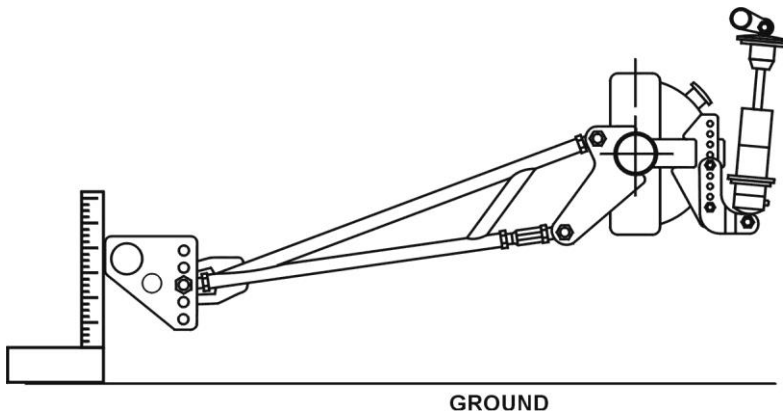

Figure 2
2. **Round Tube Crossmember-** Find and mark the center of the dropped section of the crossmember. Slide two of the crossmember brackets over each end of the crossmember. Utilizing the center bolt hole position in the brackets, bolt the crossmember to the front of the ladder bars. Position the crossmember under the car to determine the mounting location and width. Using the centerline mark, the crossmember should be centered directly under the driveshaft. **SEE FIGURE 2.**